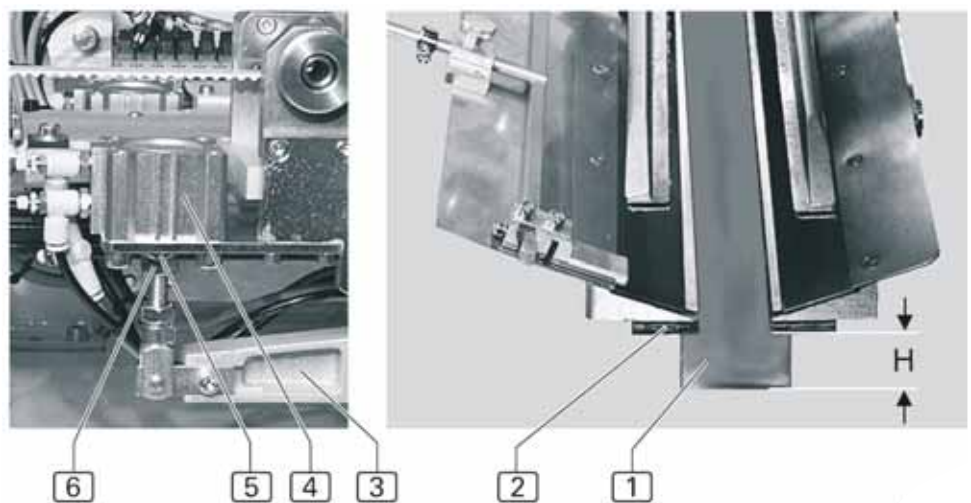

fig. 17
1. **fig. 17:** Move the clamp to the loading position and disconnect the pressure cylinder [4] from the pressure source.